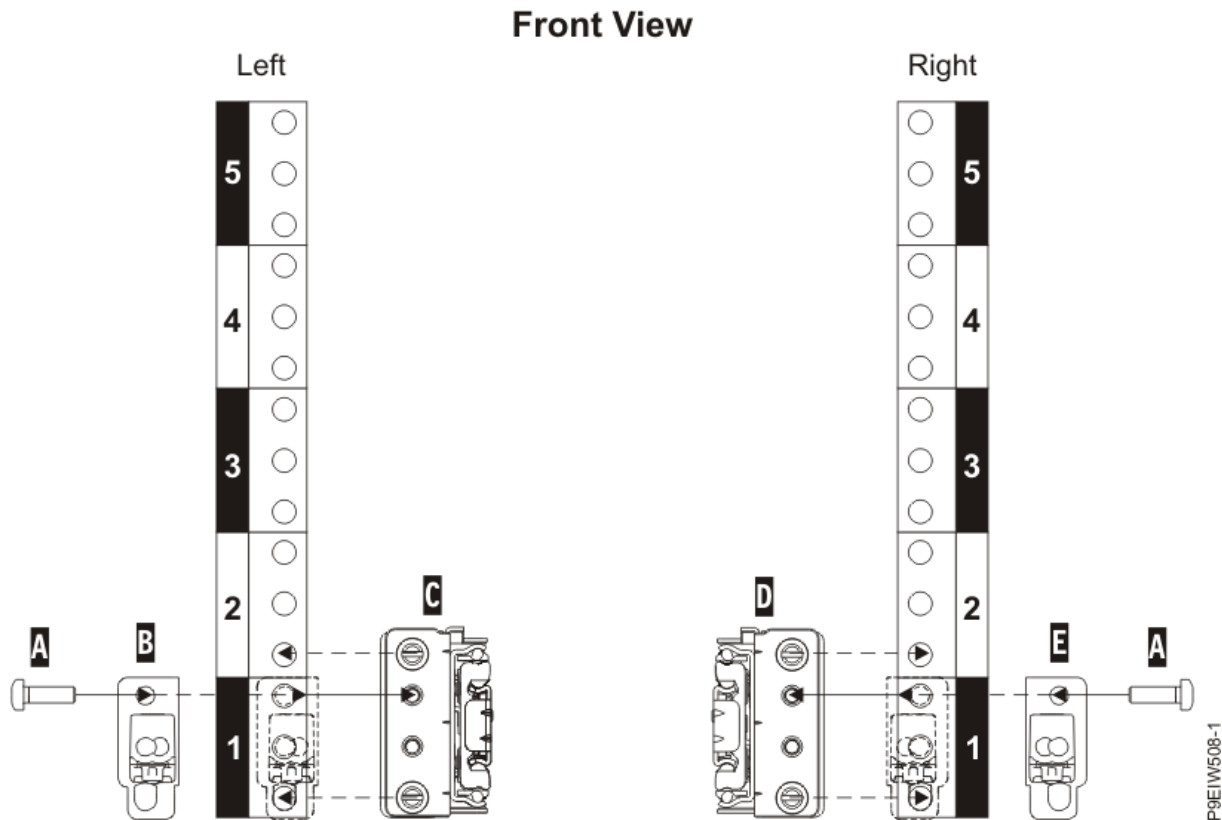

Figure 4: Attaching the slide rails at the front of the rack
2. At the front of the rack, position the left slide rail (**C**) between the left-side front and rear rack EIA mounting standards as shown in Figure 4 on page 5.
5. Position the slam-latch bracket (**B**) to cover the front EIA space of the slide rail as shown in Figure 4 on page 5.
7. Repeat steps “1” on page 5 through “6” on page 5 for the right slide rail (**D**) as shown in Figure 4 on page 5. The right slide rail is stamped with an R identifier on the inside front location.